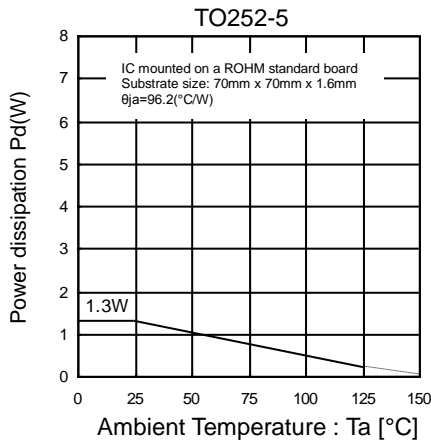
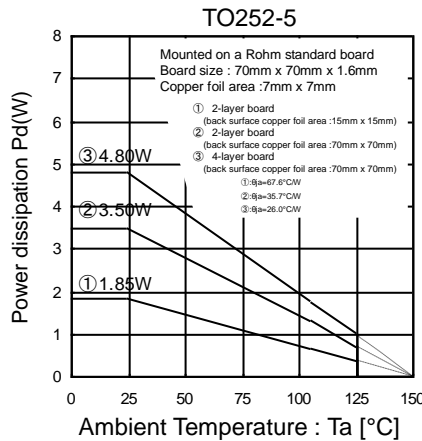
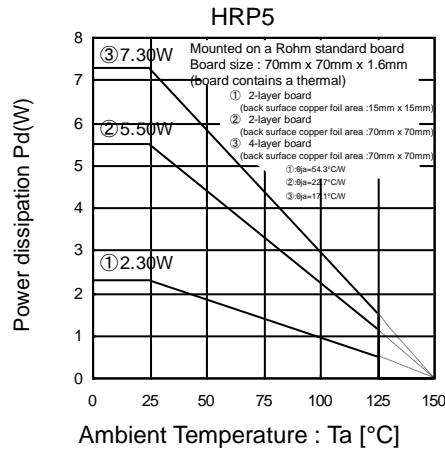

Figure 15
Figure 16
Figure 18
Refer to the heat attenuation characteristics illustrated in Figure 15 to Figure 18 when using the IC in an environment where Ta exceeds 25°C. The operating temperature of the IC greatly influences the characteristics of the IC. If the temperature exceeds the maximum junction temperature Tjmax, the elements of the IC may be deteriorated or damaged. It is necessary to give sufficient consideration to the heat of the IC in view of two points, i.e., the protection of the IC from instantaneous damage and the maintenance of the reliability of the IC in long-time operation.
In order to protect the IC from thermal destruction, it is necessary to operate the IC below the maximum junction temperature (Tjmax) Figure 15 and Figure 16 illustrate the power dissipation/heat attenuation characteristics for the TO252 package. Operate the IC within the power dissipation Pd. The following method is used to calculate the power consumption Pc (W).
$$I_{OUT} \leq \frac{2.496 - 12 \times I_{CC}}{12 - 5} \quad \left(\begin{array}{l} \text{Figure 16 } \textcircled{3} : \theta_{ja} = 26.0^\circ\text{C/W to } -38.4\text{mAW}/^\circ\text{C} \\ 25^\circ\text{C} = 4.80\text{W to } 85^\circ\text{C} = 2.496\text{W} \end{array} \right)$$